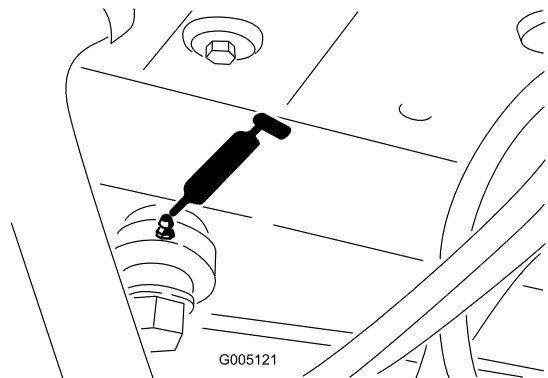

Figure 40
- Steering cylinder end (Figure 40)